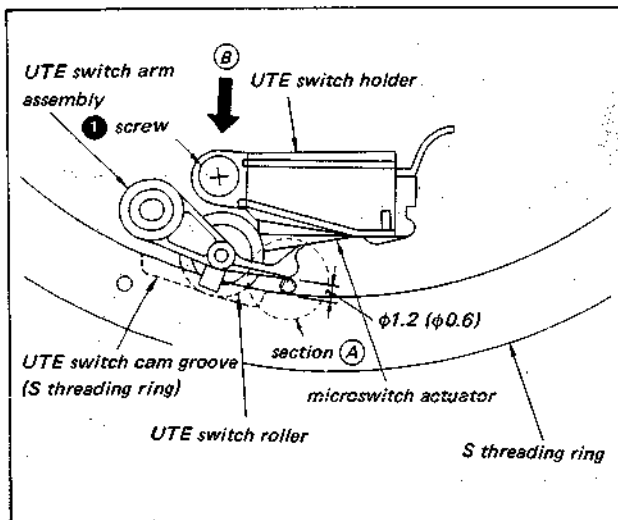

Fig. 3-27. UTE switch position adjustment
Turn the S threading ring manually until the UTE switch roller of the UTE switch arm assembly drops into the UTE switch arm groove. Confirm that when a  $\phi 1.2$  pin is inserted into section (A) in Fig. 3-27, the switch comes ON, and that when a  $\phi 0.6$  pin is inserted the switch does not come ON.